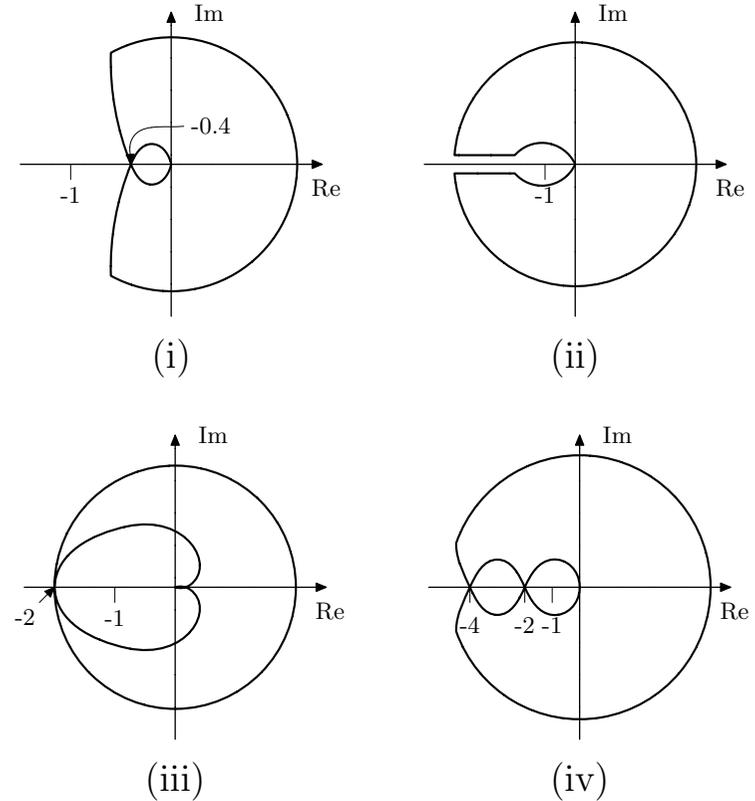

Figure 3.14b
- a) For  $K = 1$ , the open loop system  $KG(s)$  has the Nyquist diagram according to (i), (ii), (iii), or (iv) in Figure 3.14b. Is the closed loop system stable in each case?  $G(s)$  has no poles in the right half plane.